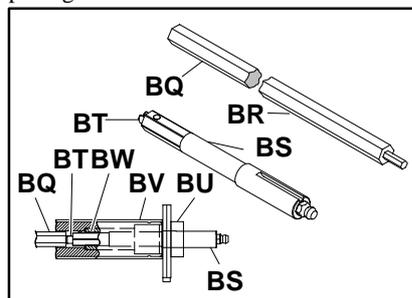

Figure 21
Removal of the outboard drive shaft (BS of Figure 21) requires use of Dorner hex key wrench extension tool (BR), part number \*25-08.